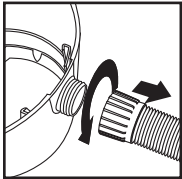

FIGURE 27
39. Unscrew hose locking-nut and remove hose from inlet. **FIGURE 27.**